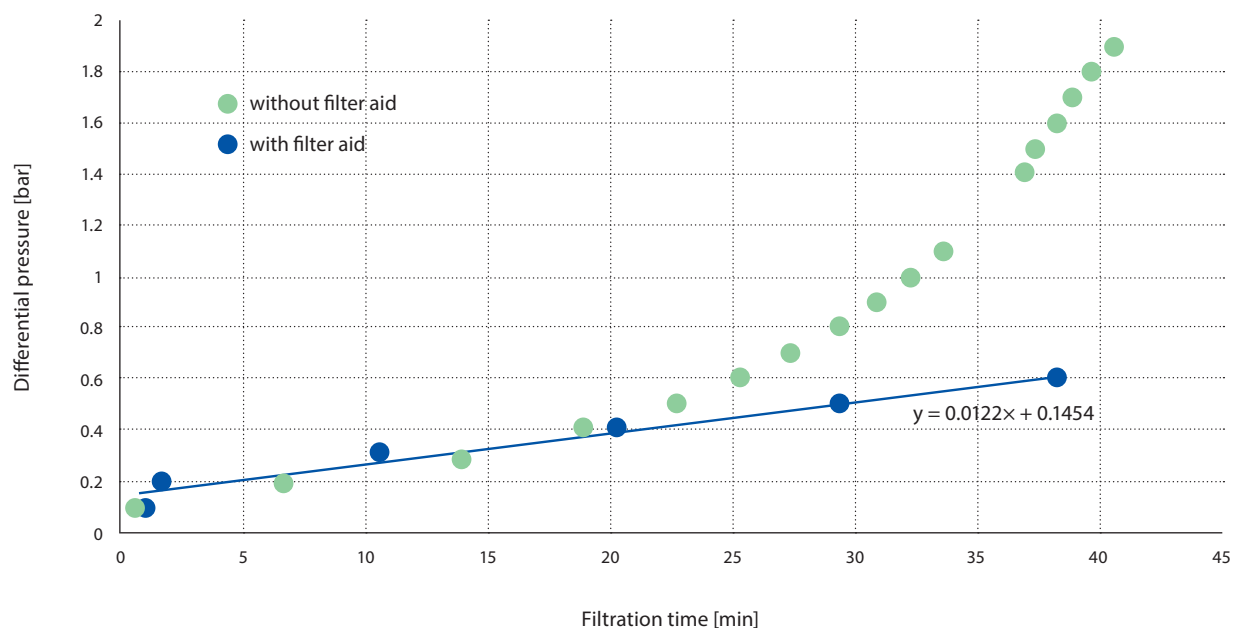

Figure 2: Increase of differential pressure during filtration without and with the addition of filter aid
Why is the use of filter aid necessary? Standard depth filters can no longer handle the higher and higher cell titers ( $>10^8$  cells/ml) in fermentation broths. By using a filter aid such as diatomaceous earth (e.g. CELPURE®) the filtration volume per filter area can be increased up to 4-fold (see figure 2). The filter aid is suspended in the fermentation broth or in buffer/water and then washed onto the FILTRODISC™ BIO SD modules to form a filter cake. When doing this, the filter sheet (e.g. PURAFIX® CH 09P) in the modules, themselves function not as filters, but merely as a support for the filter cake, which is where the actual slurry removal takes place.
1. *Extension of filtration volume per area:* Due to the formation of the filter cake the filtration volume per filter area can be extended greatly, in some cases up to 4-fold (figure 2).